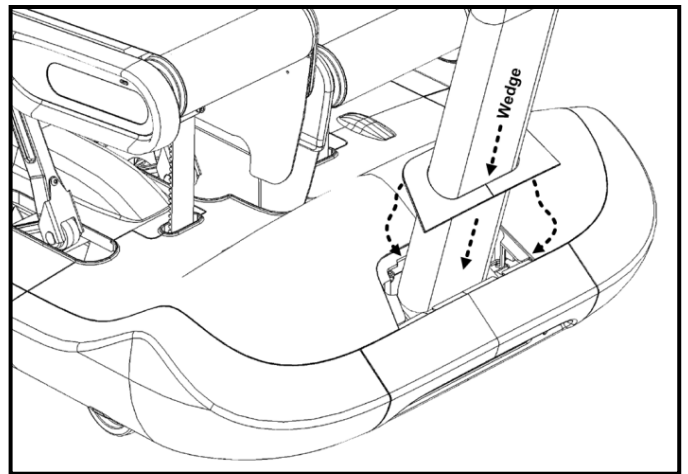

Fig. 28
26. Wedge the neck grommet (Fig. 28) between the alternator shroud and neck mast.